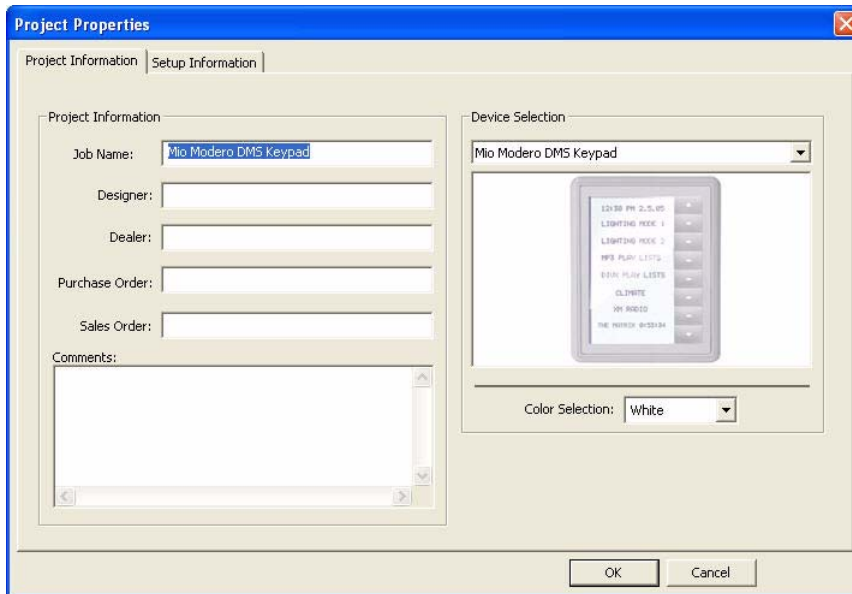

FIG. 27 Project Properties dialog - Project Information Tab
3. If the project file is not a Mio Modero DMS Pinnacle, go to **Project > Project Properties** to launch the Project Properties dialog - Project Information Tab (FIG. 27). Use the options in the *Project Information* tab of the *Project Properties* dialog to view/edit project information associated with the active project file.